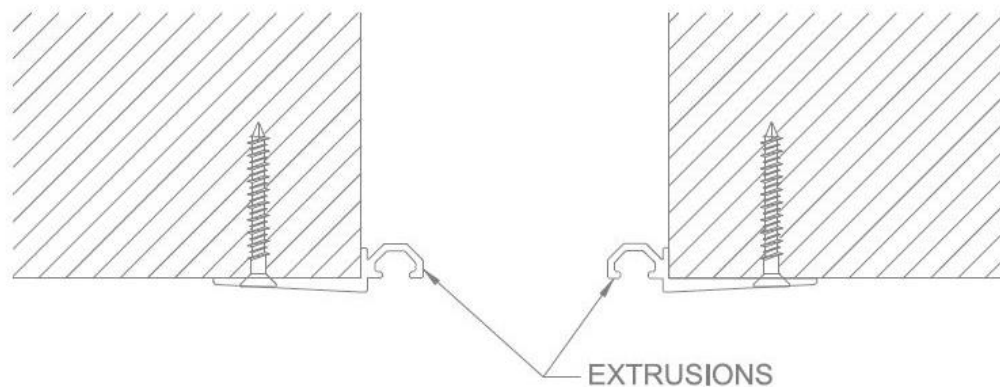

FIGURE 1
1. Position base member frames in expansion joint per shop drawings. Attach with screws (by installer) into the structural support. If attaching into concrete, use the frames as a template, mark and drill $\varnothing 5/32$ ” holes in the concrete. Install base member frames with $\varnothing 3/16$ ” Tapcon fasteners (by installer). **See Figure 1**